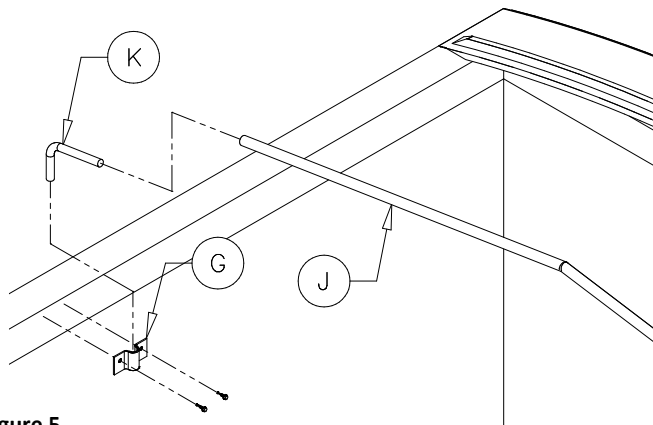

Figure 5
(See Figure 5, 6)
**Procedure:** Hoops (J) are provided according to the length of the trailer. Equally space the hoop holders (G) along the length of the trailer and locate the top edge of the hoop holder 1 inch down from the top edge of the inside trailer wall. Once in place mark the position of the hoop holder and drill two 3/16" holes into the trailer wall. Secure the hoop holder using the 1/4"x1" lag screws provided. Follow this procedure to the remaining hoop holders making sure that they are at the same level, equally spaced, and directly across from each other. Insert bent angle (K) with one end fitted into the hoop holder (G) and the other end in the hoop (J), then repeat for the opposite side of the trailer. Measure the vertical distance from the inside of the trailer floor to the top center of the front or rear hood. Record the measured distance. Center the hoop on the bent angles (K) and measure the vertical distance from the inside trailer floor to the top center of the hoop. The measurement to the top of the hoop should be 3/4 inch greater than the distance from the trailer floor to the top of either hood. If the distance is less than or greater than the required 3/4 inch, adjust the hoop and bent angles accordingly. Weld the hoop to the bent angles making sure that the hoop is parallel with the bent angles (see Figure 5).